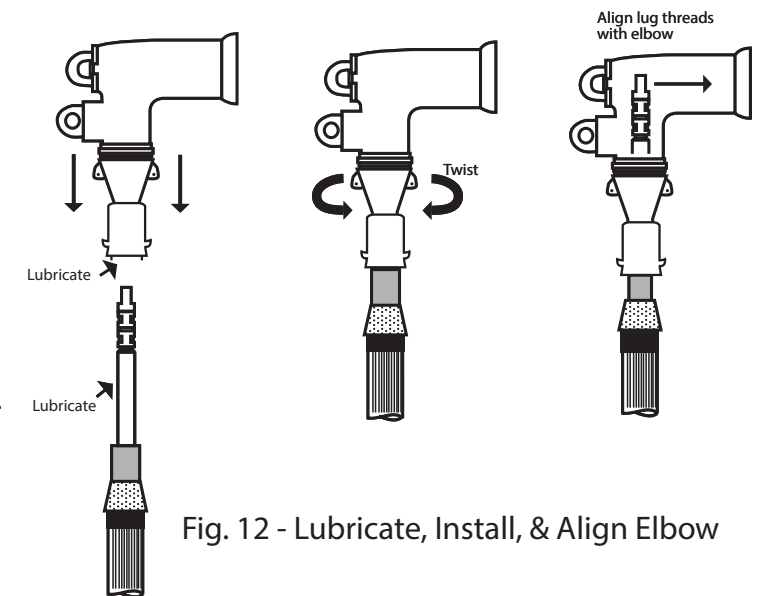

Fig. 12 - Lubricate, Install, & Align Elbow
B. Slide the elbow onto the cable, using a back and forth twisting motion. The final seating of the elbow should align elbow and threaded portion of lug. Wipe off excess lubricant that may form at bottom of elbow. See Figure 12.